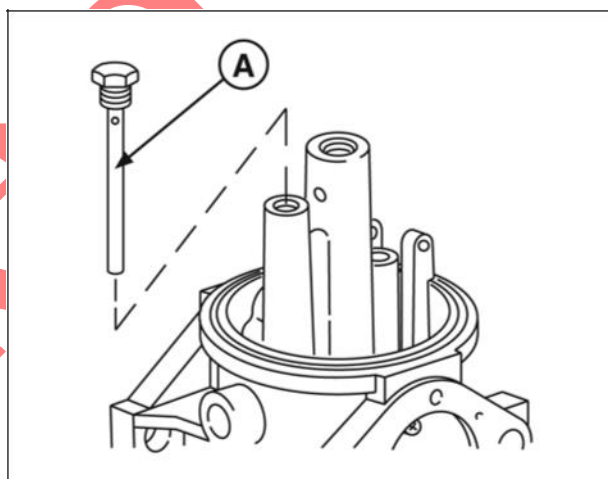

Figure 9
6. Remove idle jet (A, Figure 9).